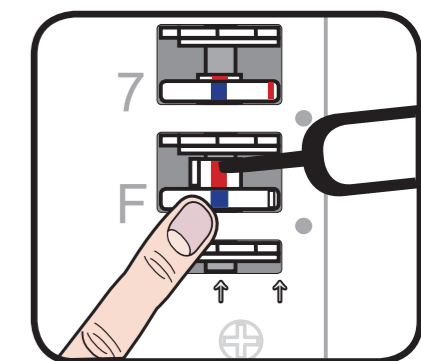

Fig.3
2. Whilst holding the inner gear the coding disk can be rotated using your finger. Rotate the disk until the blue line of the coding disk is in alignment with the red line of the inner gear (as per fig.3).